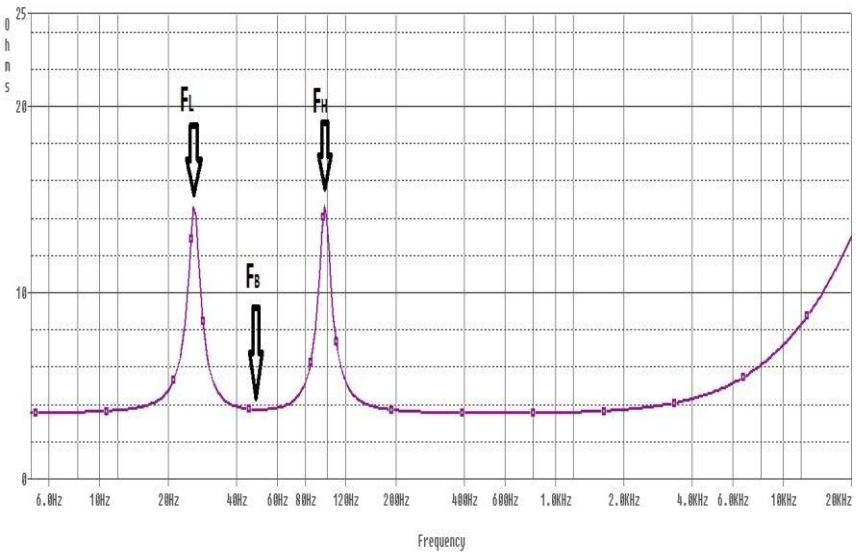

Figure 6, the impedance curve of a single 4 ohm voice coil subwoofer in a single reflex bandpass enclosure (4th order). Bandwidth is approx 30 – 90 Hz
5. After the unit is operating, turn the frequency down as far as it goes. Then slowly raise the frequency until a **first** peak in impedance is found. If you go too far and pass the peak, just back down the frequency until the peak in impedance is found. Let us call this frequency peak  $f_L$ . See figure 6